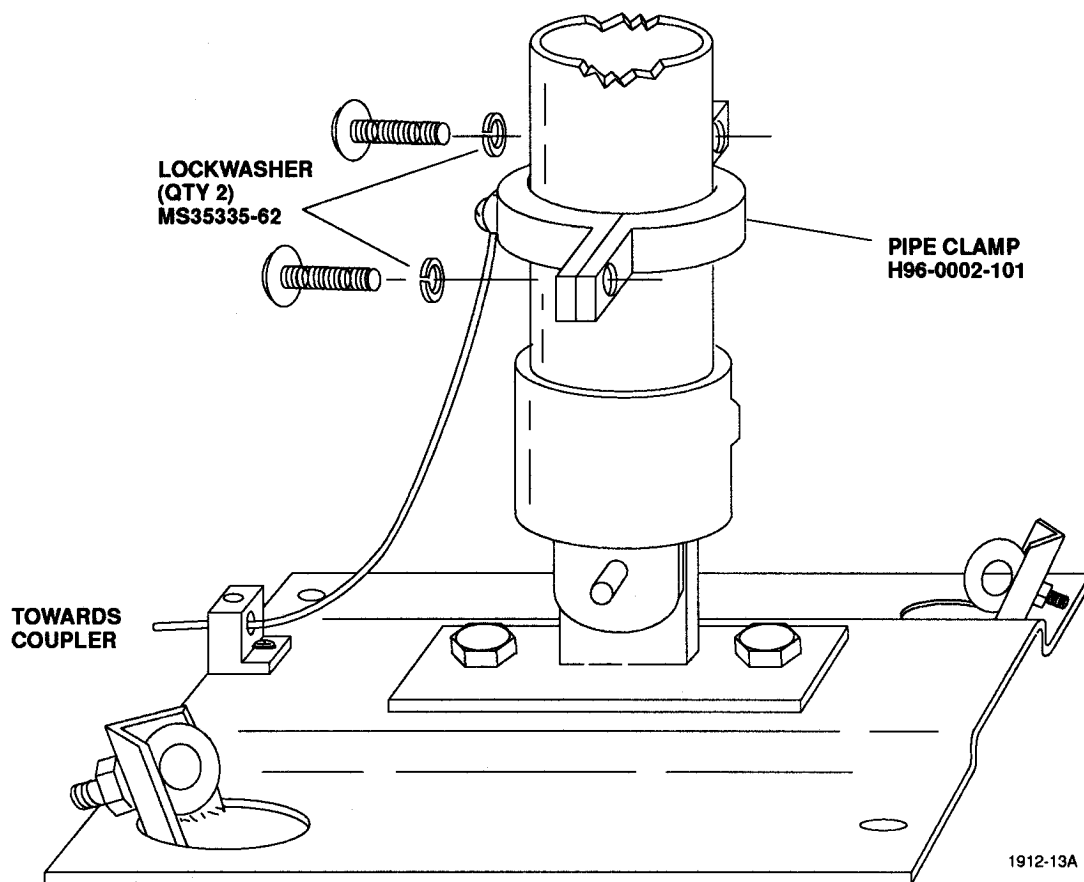

Figure 2-13. Antenna Mast Grounding Clamp
- a. There are two bronze pipe clamps supplied to provide a good electrical ground to the antenna masts. Attach one several inches above both mast sockets, around each mast, as shown in figure 2-13. Securely tighten the two clamp screws.
- b. Attach the supplied aluminum ground wire from each pipe clamp to mast baseplates and to coupler baseplate. Use lugs on the baseplates, as shown in figure 2-13. Verify that all grounding lugs, except coupler baseplate lug, are securely tightened.